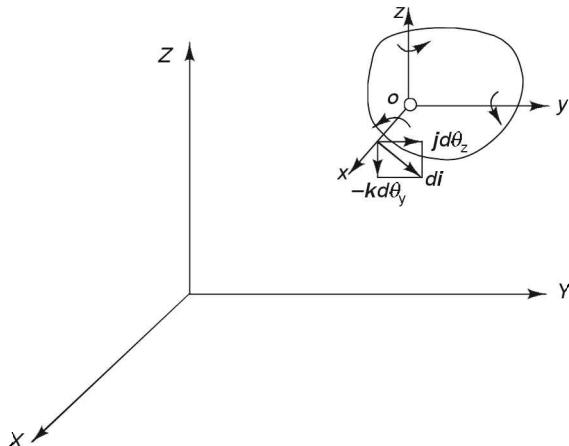

FIGURE 13.3 Rotation of moving frame and unit vector.
- (c) *Moving frame is rotating.* Consider a unit vector on a moving reference frame and let us observe the change in this unit vector from the fixed frame. Let $d\theta_x$, $d\theta_y$ and $d\theta_z$ be rotation of moving frame in time t in relation to fixed frame (Figure 13.3). If angular velocity components ω_x , ω_y and ω_z are referred to the rates of rotation about the fixed frame, then we have